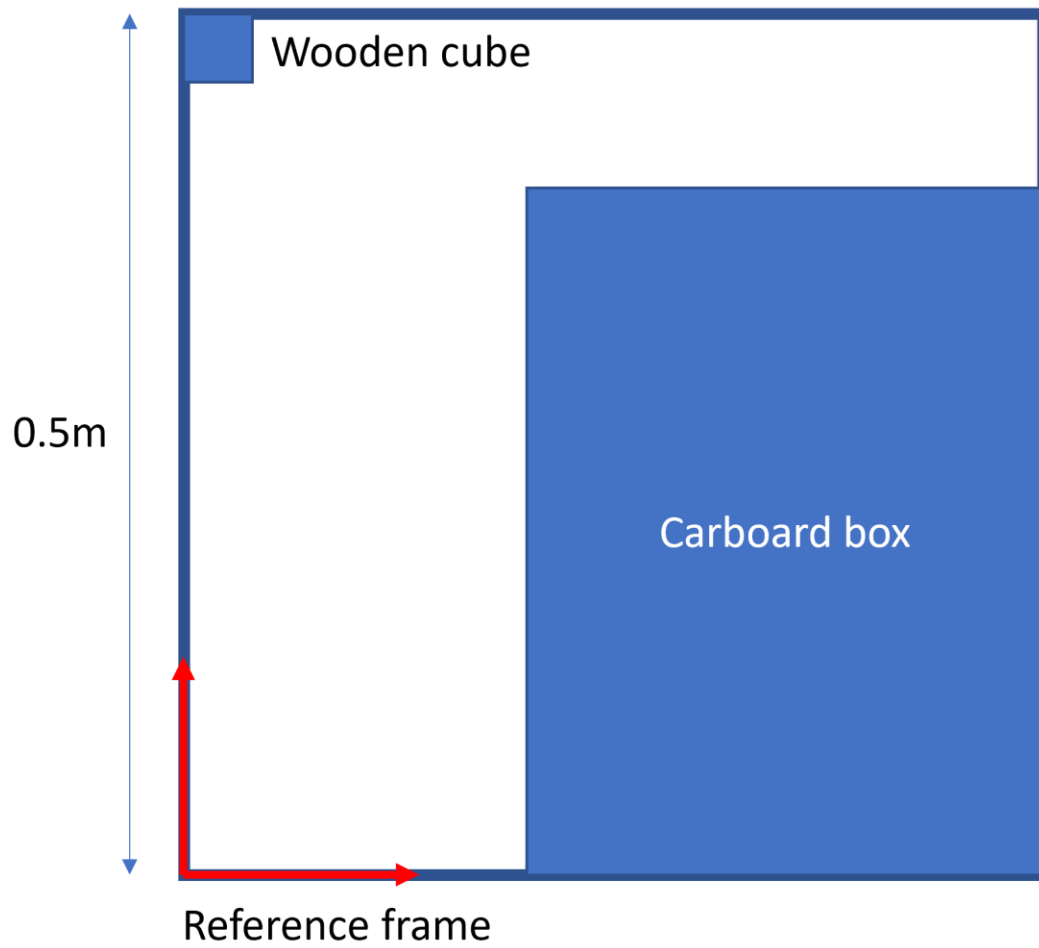

Figure 2, Table B workpieces place position
- Table A and Table B can be placed anywhere in the footprint shown in figure 2 and can have any orientation (floor normal axis).